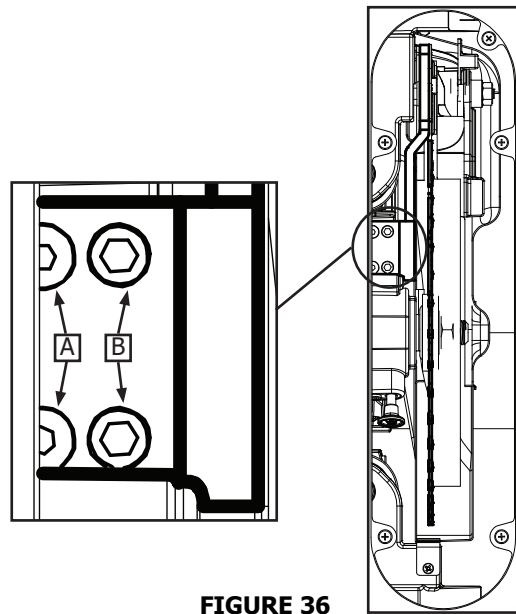

FIGURE 36
This procedure requires a 4mm T-handle hex wrench and straight edge ruler. (Fig.36 b)
2. Loosen the two hex-head screws (A) shown in Figure 36.
3. Using a straight edge ruler, align riving knife with blade body shown in Figure 36 a.
5. To adjust parallel alignment use the two set screws (B) shown in Figure 36. Clockwise: adjust riving knife to the right. Counter-clockwise: adjust riving knife to the left. If needed, use the set screws (D) to align the riving knife with blade face and the square.
FIGURE 36 a
FIGURE 36 b